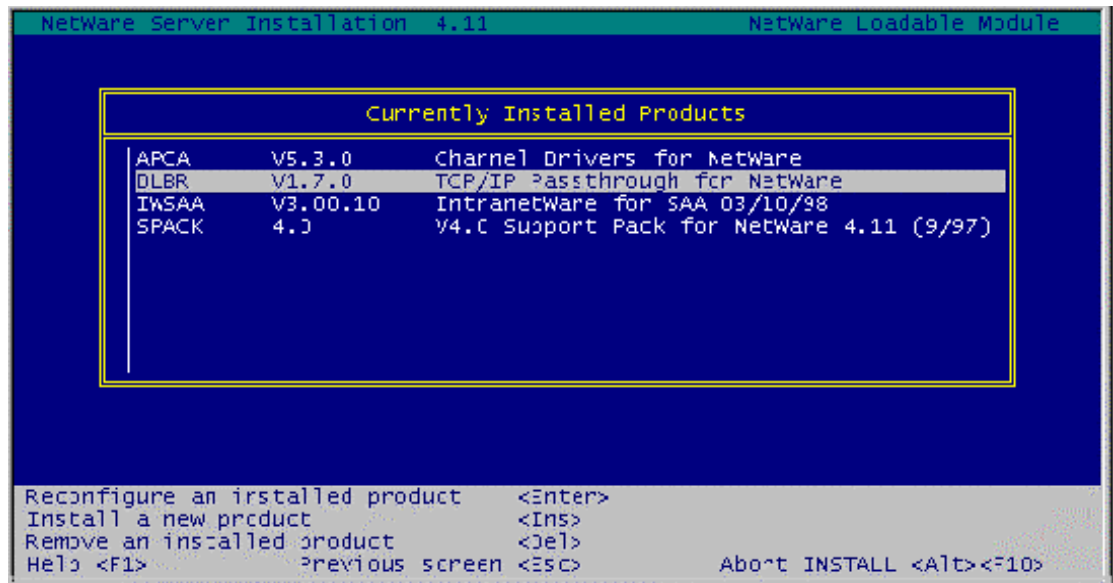

Figure 12-7. Installed Product List
6. Press <Enter> to display a list of the installed products on the server; now including TCP/IP Passthrough (Figure 12-7).